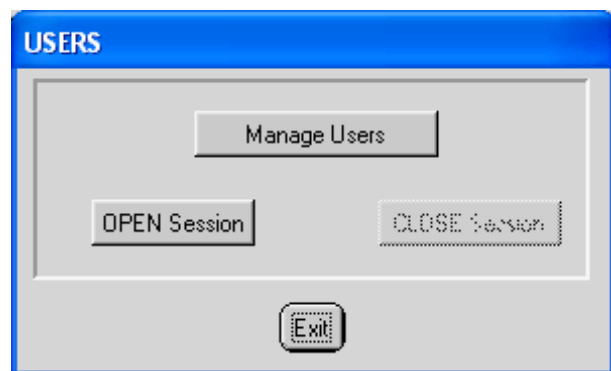
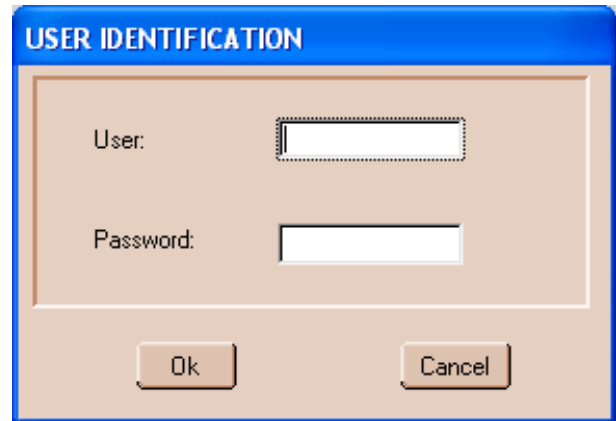

Figure 5.6: User Options.
Figure 5.7: User Log in.
a) In the main menu, under the **Users** button, select the option **OPEN session** (see figure 5.6). After entering the user name and password (figure 5.7), this user will be activated.
b) When the current user tries to carry out an action without the corresponding permission, the user is asked to log-in (figure 5.7). If identification is positive, the authenticated user becomes active.
Here is a screen of the log-in dialog box (for entering user name and password) (figure 5.7). Remember that the user name and password are case-sensitive.
If you want to close your session before this inactivity time is up, go to the **Users** button on the principal menu and use the **CLOSE session** button (see figure 5.6). (The predetermined user will be automatically changed to the current user.) When the active user is the predetermined user, the session cannot be closed (the **CLOSE session** option will be disabled), since there must always be an active user. By default, this is the predetermined user.
User management is explained next. Access the **Users** button on the main menu, and then the **Manage Users** option (figure 5.6).